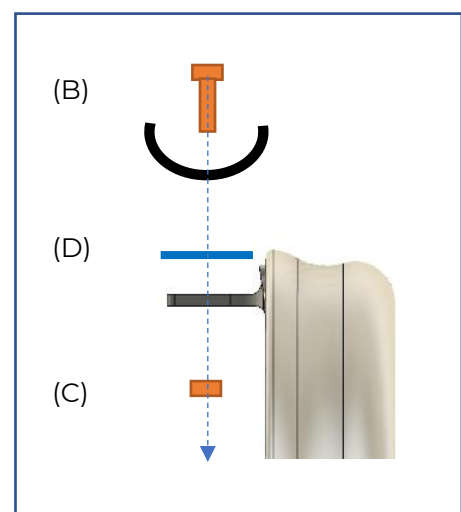

Figure 3
- c. Position the hand rim and add (B) and (C) to all the mounting tabs, as shown in Figure 3. Only tighten (C) until the nuts just touch the tab. **DO NOT** tighten further until the following checks have been performed.
If the maximum gap exceeds 0.3mm, add a 0.2 mm spacer (E) as shown in Figure 3 and remeasure. Up to 3 spacers, per tab, may be added. Ensure that each tab has the same number of spacers added.
- Attach each mounting tab of the hand rim to the wheel with Bolts (B) and self-locking Nuts (C) that are tighten finger tight only. The spacers (D) are added as required. See Figure 3.
- Torque the Nuts (D) to (8-12 Nm). **DO NOT** over tighten as this can damage the mounting tab.